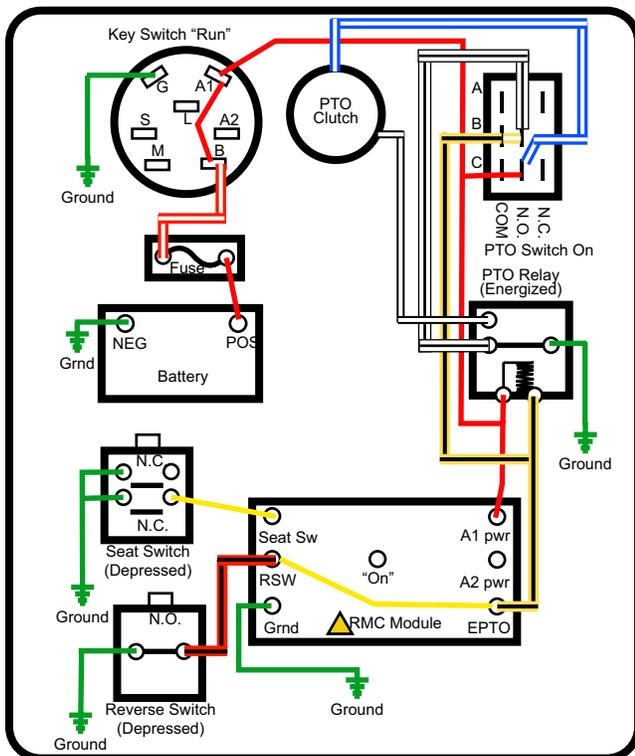

Figure 7.40
3. Once the PTO relay is energized by a ground path through one of the safety switches, it latches. See Figure 7.40.